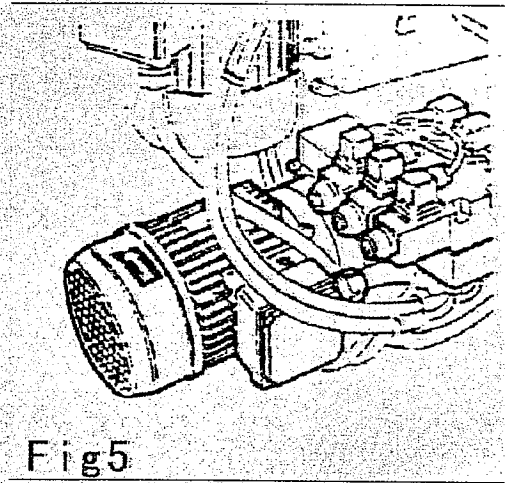

Fig5
* Connect the tyre-changer to the power supply network, switch it on and check the motor running direction same as indicated by the arrow (fig 5).